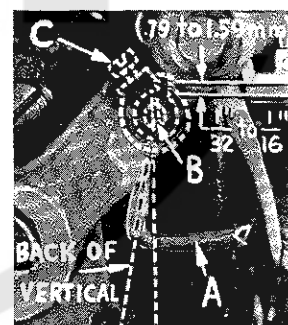

Fig. 8A
Insert upper spreader (A, Fig. 8A) in its holder. Screw (B) holds upper spreader in its holder, and permits it to be pushed in or out, or turned around its shank. Insert spreader holder into spreader shaft, if it is not already in place. Screw (C, Fig. 8A) on clamp collar holds spreader holder in the shaft, and allows holder to be rotated or adjusted laterally.
Preliminary Setting: When upper spreader is at the right end of its stroke, spreader holder should be set to position spreader shank slightly back of vertical (Fig. 8A). Top end of spreader shank should extend $1/32$ to $1/16$ inch (.79 to 1.59 mm) above the spreader holder for Style 39500 RM. The same is true of Style 39500 RR except the spreader holder should be set to position spreader shank approximately vertical. Top end of spreader shank should extend $1/16$ to $3/32$ inch (1.59 to 2.38 mm) above the spreader holder for Style 39500 RR.